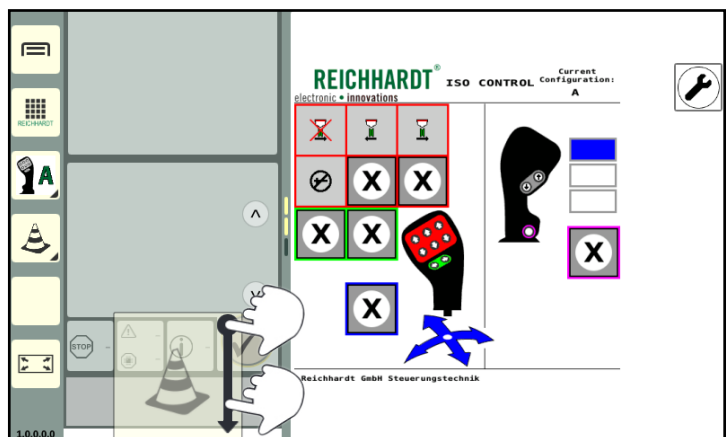

Fig. 64: Moving and positioning an application in a new small window
2. Position the application above the first, underneath the last, or between any two small windows (see Fig. 64). In the same way as adding new small windows.